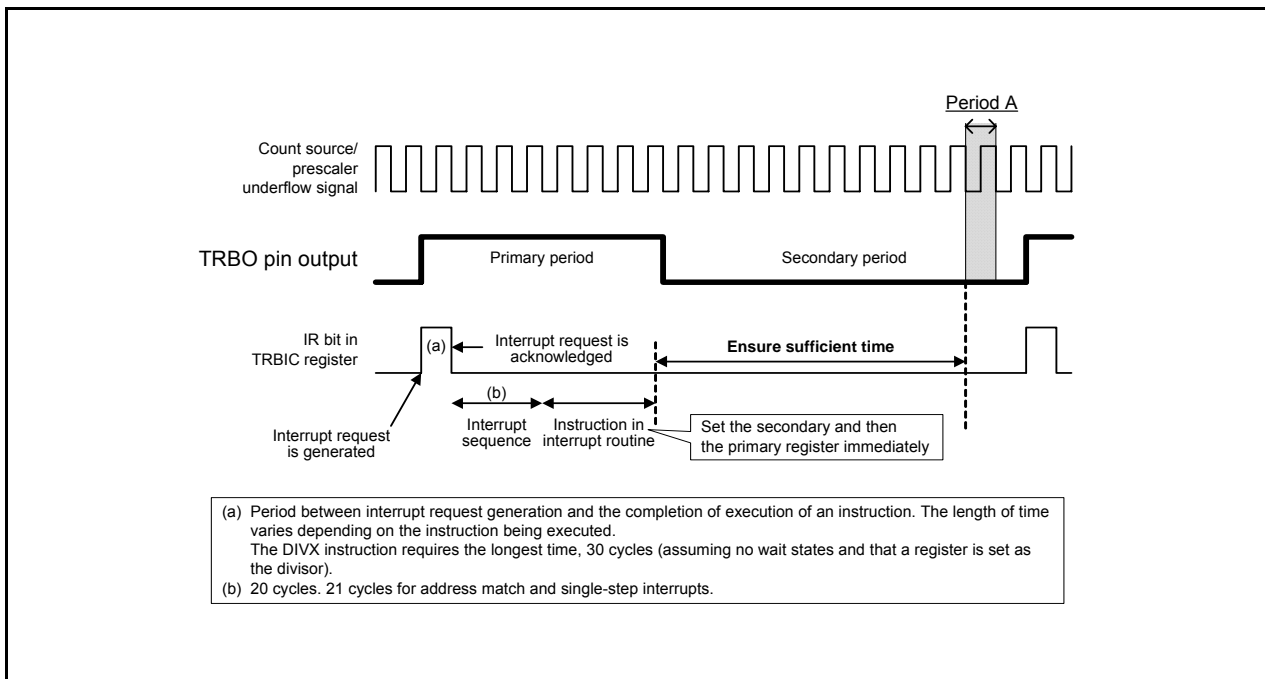

Figure 23.2 Workaround Example (a) When Timer RB interrupt is Used
- (1) To write to registers TRBPRE and TRBPR during count operation (TCSTF bit is set to 1), note the following points:
- (2) To change registers TRBPRE and TRBPR during count operation (TCSTF bit is set to 1), synchronize the TRBO output cycle using a timer RB interrupt, etc. This operation should be performed only once in the same output cycle. Also, make sure that writing to the TRBPR register does not occur during period A shown in Figures 23.2 and 23.3.
As shown in Figure 23.2, write to registers TRBSC and TRBPR in the timer RB interrupt routine. These write operations must be completed by the beginning of period A.